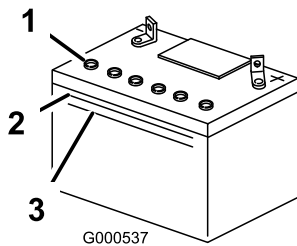

Figure 38
1. Look at the side of the battery. The electrolyte must be up to the **upper** line (Figure 38). Do not allow the electrolyte to fall below the Lower line (Figure 38).
3. Remove the vent caps from the battery (Figure 38).
4. Slowly pour distilled water into each battery cell until the electrolyte level is up to the Upper line (Figure 38) on the battery case.
5. Wait five to ten minutes after filling the battery cells. Add distilled water, if necessary, until the electrolyte level is up to the Upper line (Figure 38) on the battery case.